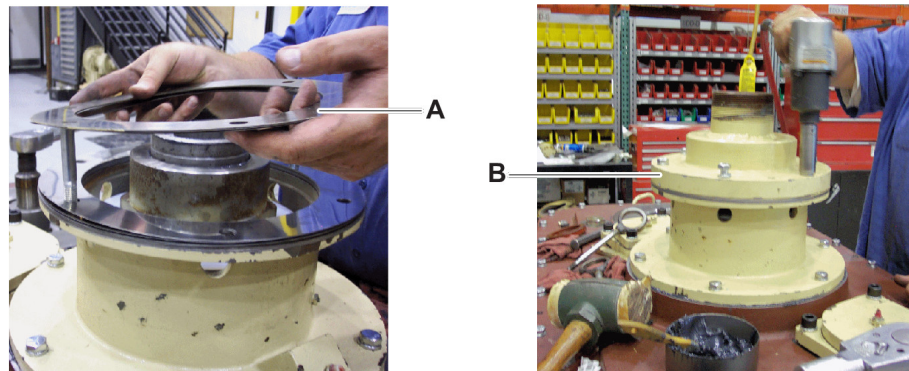

Figure 13
17. Install the correct thickness of shims (Figure 13, item A) from the shim kit between the spindle cover and the swivel housing. Use long threaded dowel rods to help align the spindle cover.